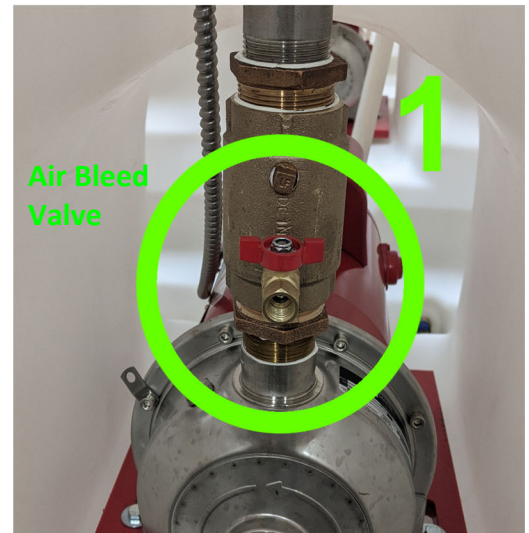

Fig. 1
**3.1** Bleed the air out of the pump through the ¼" Air Bleed Valve (fig. 1) and the ½" Test Valve (fig. 2).